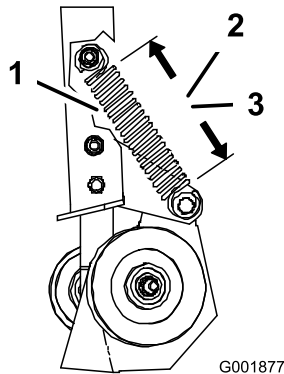
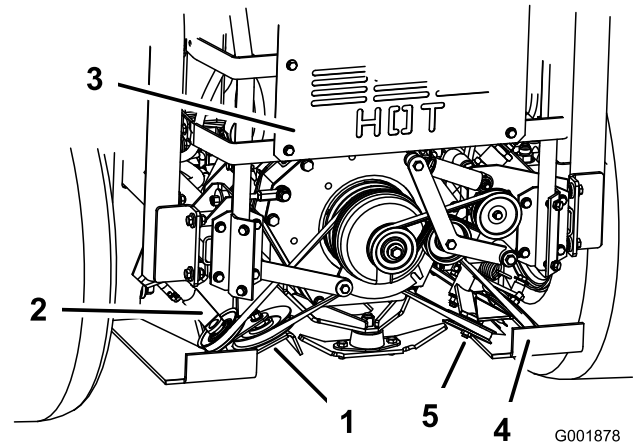

Figure 67
Figure 68
3. Measure the length of the spring. Check to make sure the coils of the spring on the spring-loaded idler pulley measures as listed below (Figure 67 and Figure 68).
- Left spring measurement: $5\text{-}3/4 \pm 1/8$ inch (14.6 ± 0.3 cm) (Figure 67).
- Right spring measurement: $5\text{-}1/2 \pm 1/8$ inch (14.0 ± 0.3 cm) (Figure 67).
4. If the spring does not have the correct measurement, loosen the nut holding the adjustable idler pulley so it can move up and down in the slot (Figure 68).
5. Relieve the pressure on the spring-loaded idler pulley (Figure 68).
6. Position the adjustable pulley lower in the slot and tighten the nut (Figure 68).
7. Check to make sure the coils of the spring on the spring-loaded idler pulley have the correct measurement (Figure 67).